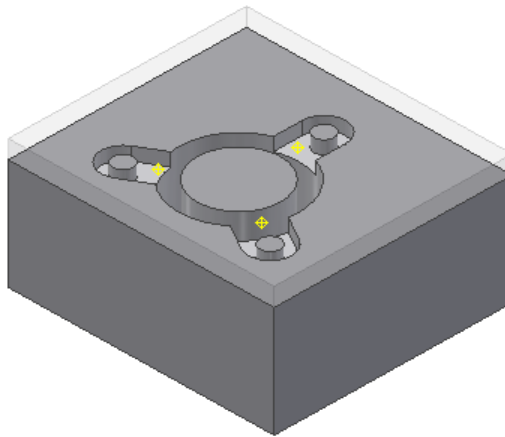

Figure 19-79 The core and cavity generated
- e. Generate core and cavity, refer to Figure 19-79 and create runner, refer to Figure 19-81.
2. Choose the **OK** button from the dialog box; the core is generated, as shown in Figure 19-79.